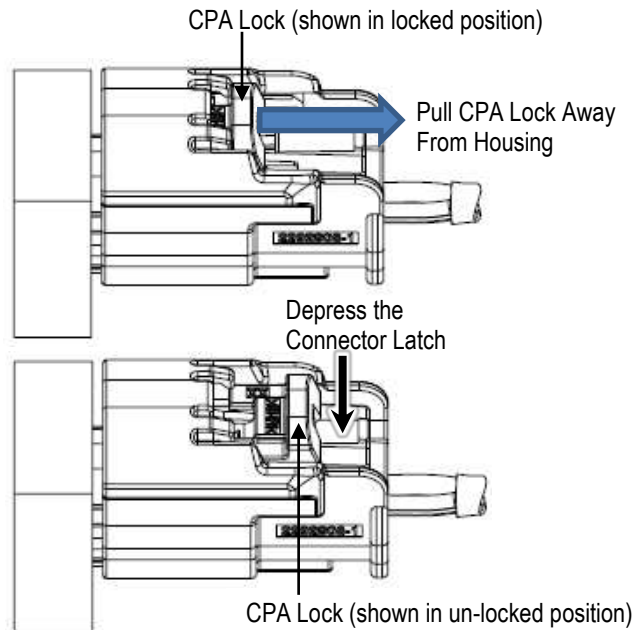

Figure 2
- a. Pull back on the Connector Position Assurance (CPA) Lock (if used). Reference Figure 2.